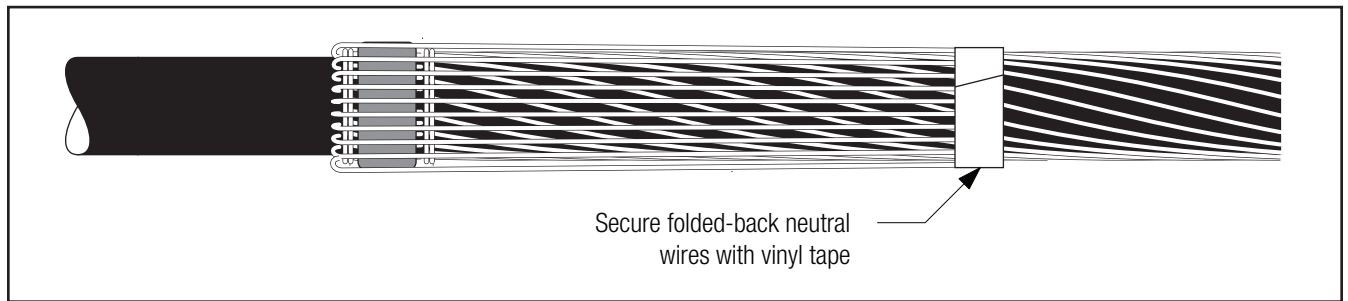

Figure 6
2.4.4 Fold neutrals over mastic seal and temporarily secure ends with vinyl tape (Figure 6).